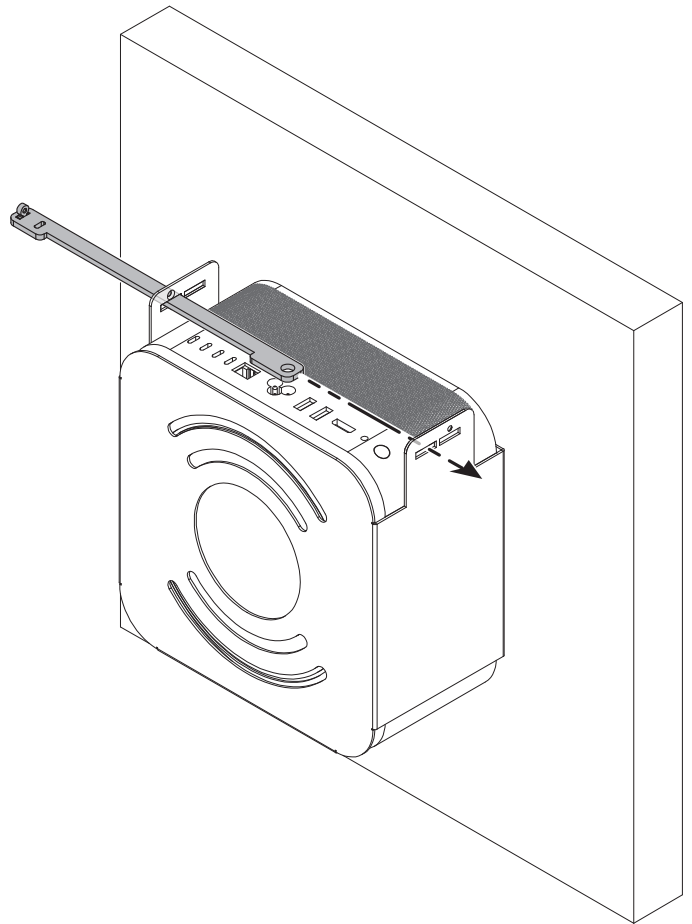

Figure 15
14. Insert the locking bar through the bracket slots furthest from the wall as shown (Figure 15).